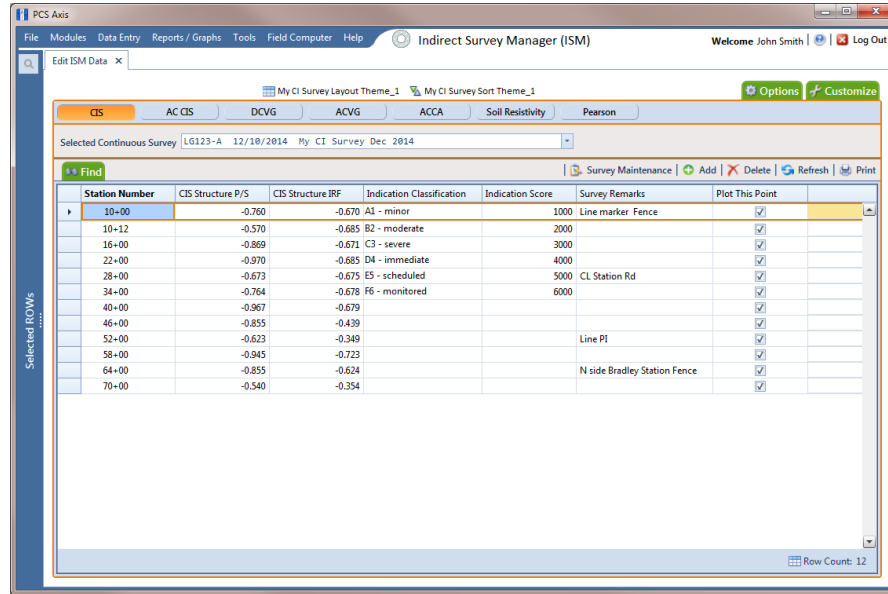

Figure 7-93. Edit ISM Data
- 3 Click **Data Entry > Edit ISM Data** to open the ISM data entry grid. Then click the **CIS** button  to work with a close interval survey (Figure 7-93, page 305).